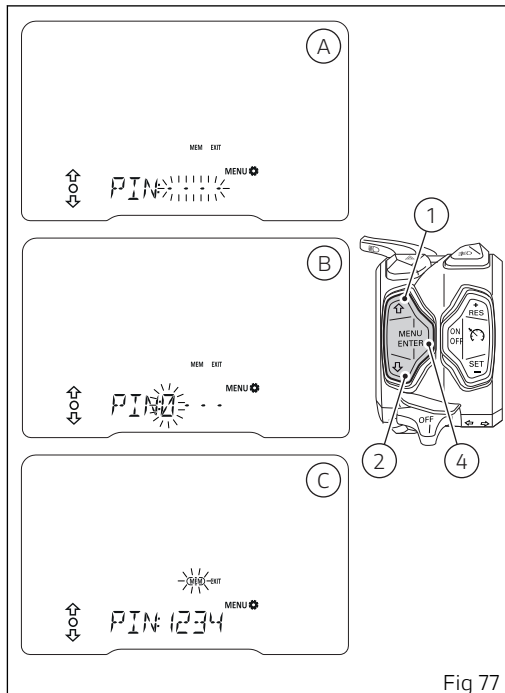

Fig 77
When you press button (4) to confirm the fourth and last digit, the MEM item frame (C) is flashing (Fig 77).
- select EXIT (flashing frame) and press button (4) to quit without saving the PIN CODE;
- select every figure (flashing) of the set code and press button (4) to edit them and repeat the code entry procedure;
- select MEM (flashing frame) (C, Fig 77) and press button (4) to save the new PIN CODE.